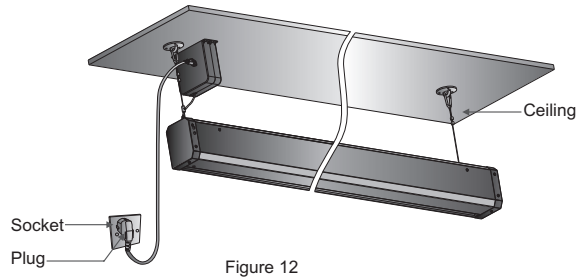

Figure 12
1. Insert the plug from Main cable into socket of power. (Figure 12)